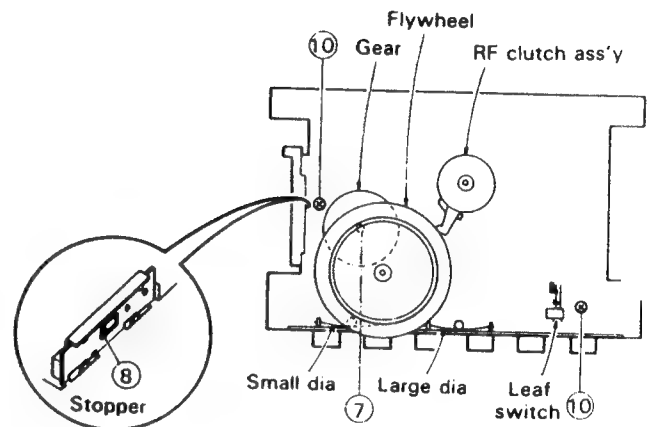

Fig. 3-20
- Gear (below the flywheel) (See Fig. 3-20 and 21)
- Lock arm (See Fig. 3-20)